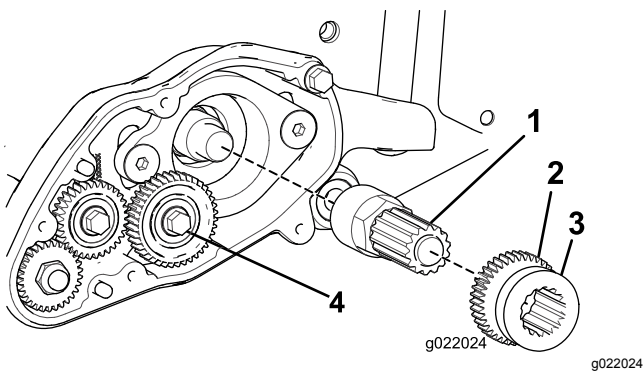

Figure 11
3. Thread the shaft assembly onto the reel-shaft extension (Figure 11).
5. Apply synthetic grease (supplied with the kit) to the male spline of the shaft assembly (Figure 11).
6. Slide the drive gear with the groove oriented outward onto the shaft assembly (Figure 11).
7. Install the 40-tooth idler gear (Figure 11).